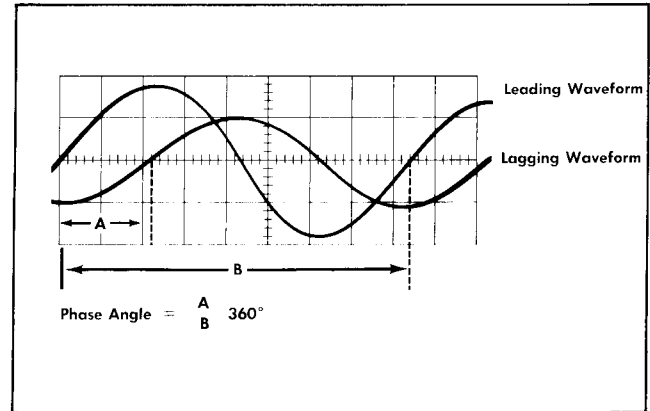
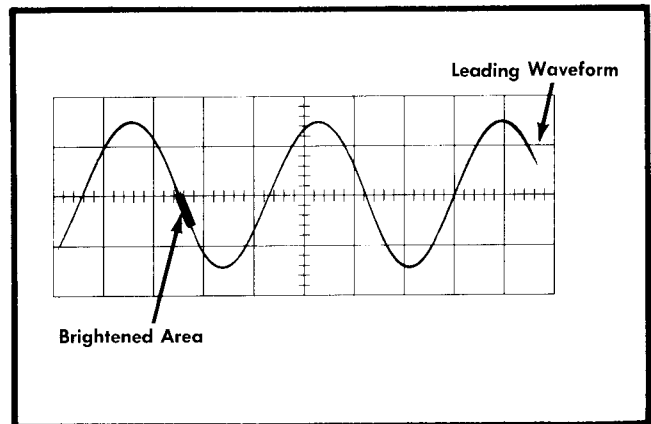

Fig. 3-8. An alternate method for measuring the phase angle between two electrical signals.
Fig. 3-11. Setting the start of the brightened area at the horizontal centerline using the leading waveform.
Referring to Fig. 3-8, it can readily be seen that the phase angle between the two waveforms is $360^\circ \times A/B$. It is apparent that it is not necessary to calibrate the display in degrees per centimeter as long as it is possible to measure A and B accurately. It is particularly important to measure A accurately when the phase angle is less than 10° . The delayed sweep feature provides the means for making these measurements. The phase angle can be found by: (1) measuring A; (2) measuring B; and (3) multiplying A/B by 360° . Here again the relative amplitude of the two waveforms is unimportant as long as the waveforms are centered about the horizontal centerline of the graticule.
3. Center the waveform exactly about the horizontal centerline. Adjust the DELAY-TIME MULTIPLIER control so that the start of the brightened portion of the trace is at the point where the curve crosses the horizontal centerline the second time (see Fig. 3-11). Place the HORIZONTAL DISPLAY
line of the graticule. Record the setting of the DELAY TIME MULTIPLIER control. Subtract the setting of the DELAY TIME MULTIPLIER control obtained in step 3 from that obtained in this step. The number obtained is the dimension B shown in Fig. 3-8.
5. Disconnect the first waveform and connect the second (lagging) waveform to the oscilloscope input. Place the HORIZONTAL DISPLAY switch in the "B" INTENSIFIED BY "A" position. Center the displayed waveform exactly about the horizontal centerline of the graticule. Adjust the DELAY-TIME MULTIPLIER control clockwise from the final setting of step 4 until the start of the brightened portion of the trace is at the point where the curve next crosses the horizontal centerline of the graticule (see Fig. 3-11). Place the HORIZONTAL DISPLAY switch at "A" DEL'D BY "B". Adjust the DELAY-TIME MULTIPLIER control so that the start of the trace is at the horizontal centerline of the graticule. Record the setting of the DELAY-TIME MULTIPLIER control. Subtract the setting of the DELAY-TIME MULTIPLIER control obtained in step 4 from that obtained in this step. The figure obtained is the dimension A shown in Fig. 3-8.